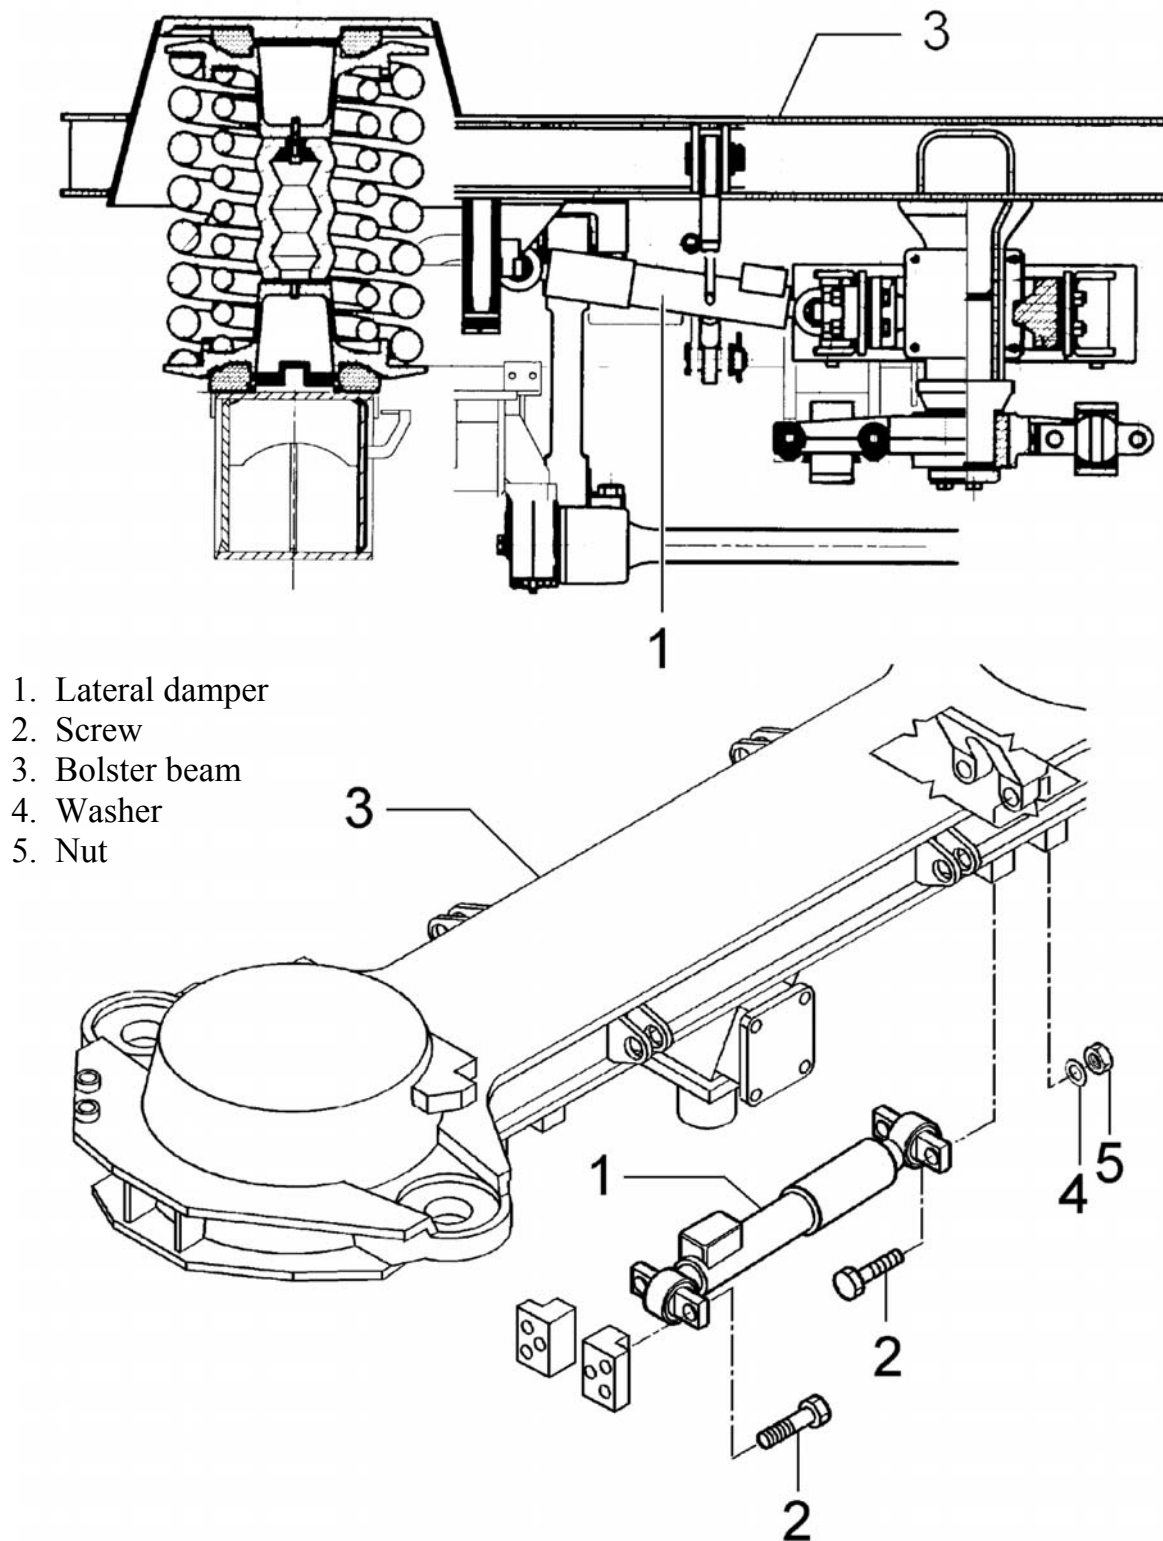

FIG. 4.21 LATERAL DAMPER REMOVAL
Remove the lateral damper (1 - FIG. 4.21) extracting the screws (2) which fix one end at the bolster beam (3) and the other to the frame. Recover the washers (4) and the nuts (5).